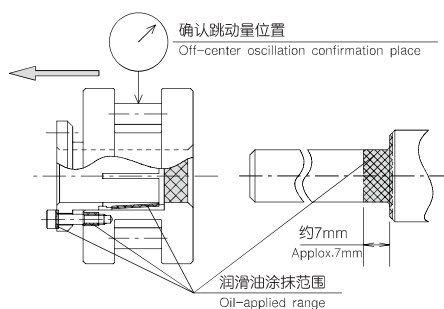

图4 /Fig. 4
2. 在轴上和滚轮接触部分以及涨紧套的各锥面、锁紧螺栓的螺纹部·头部座面轻轻涂抹润滑油或者润滑脂 (图4、6)。
Lightly apply oil or grease to the shaft which directly contacts with the roller pinion, tapered area of the clamping tool, screwed area and head seat of lock bolt(Fig. 4 and 6) .
注4. 在拧紧锁定螺栓时, 滚轮会朝着图4箭头A的方向有若干移动。注意与齿条侧面的干涉。(对象为CP16~32型)
Note 4. Since the roller pinion moves slightly in the arrow A direction of Fig.4 when the lock bolts are fastened, watch out the roller pinion for the interference with the ring gear side (for CP16~32 types).